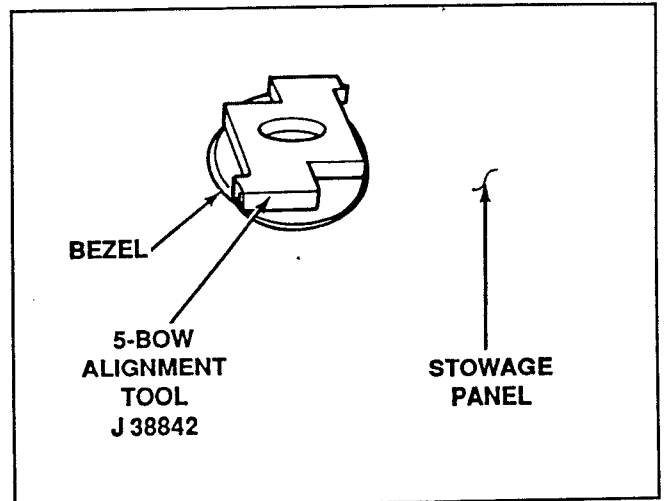

Figure 39. Loosen Screws, Insert Alignment Tool
2. Insert both alignment tools J 38842 into the stowage panel bezels (Fig. 39).